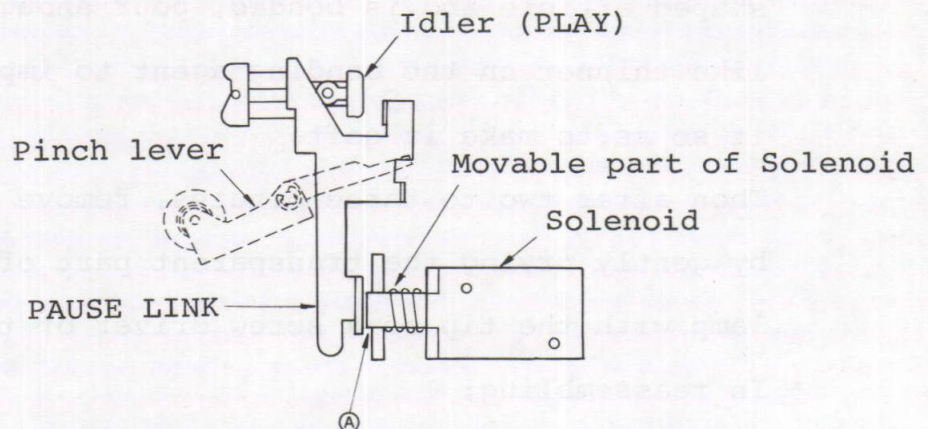

Fig. 8
- Remove the link by sliding the PAUSE link shown in Fig. 8 upward and then remove the PAUSE pushbutton.
- The PAUSE link is assembled in as shown in Fig. 8 after assembling the PAUSE pushbutton, but use care as the movable rod of the solenoid obstructs insertion of the link at (A) in Fig. 8.